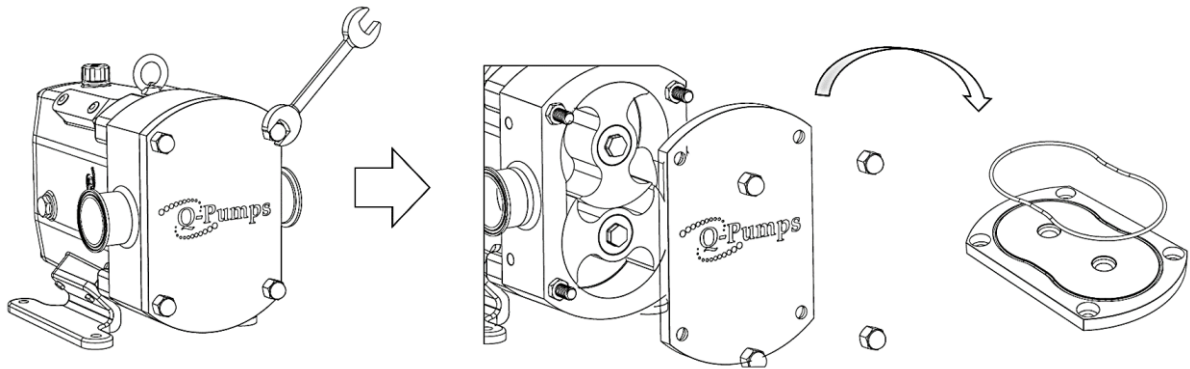

Figure 25: Removing QL Cover
1) Start by removing the cover nuts using an appropriate wrench (Figure 25). During disassembly place all parts on a clean, protected surface with finished surfaces and seal faces facing up. Tap the cover off using a soft mallet. Remove the cover o-ring and inspect.